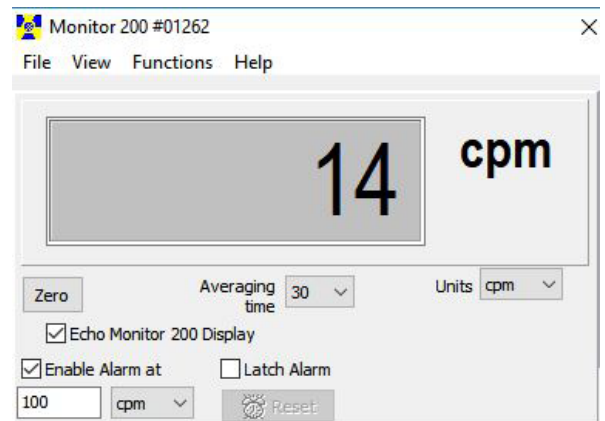

Figure 6(3)
**Show Grid** displays an ongoing collection of data based on the user selectable settings in the *View > Preferences > Grid Settings* dialog box (*Figure 6(4)*).